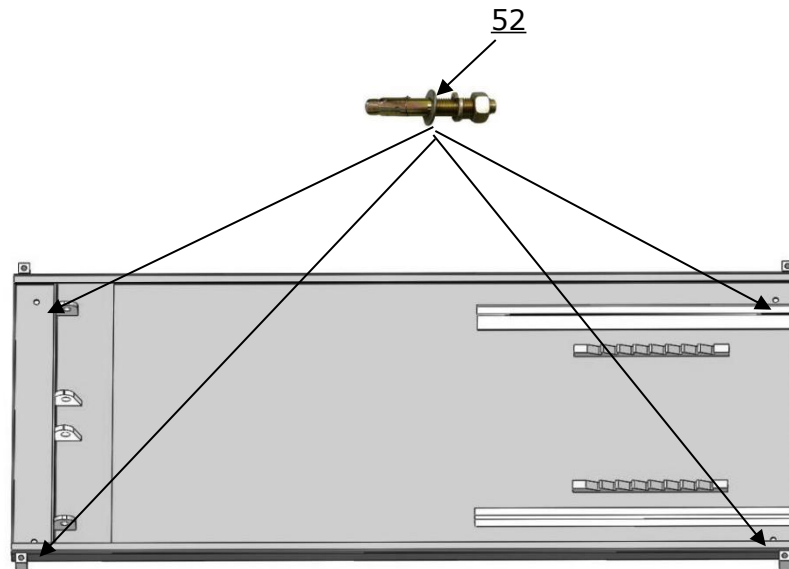

Fig.16
1. Install anchor bolts. (see Fig.16)